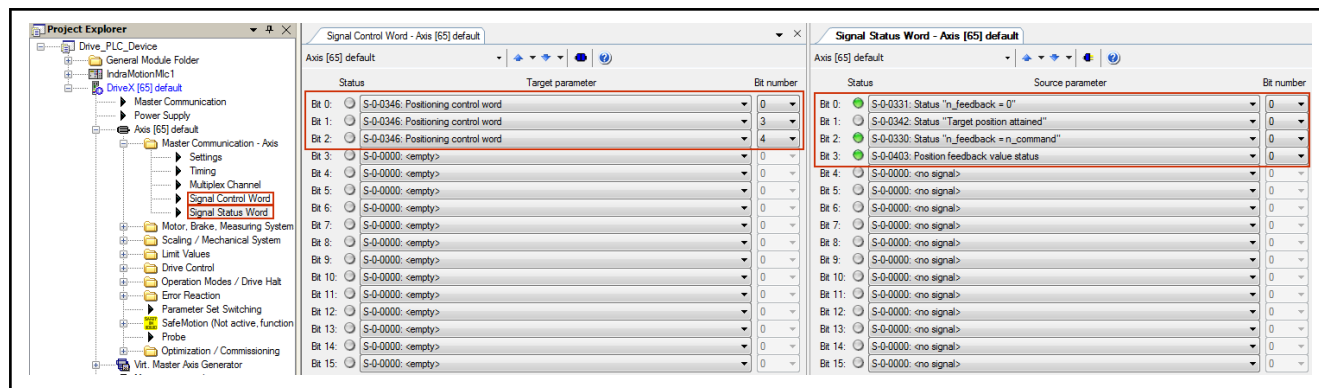

Fig. 6-89: Parameterizing signal control and signal status words using IndraWorks
4. Parameterizing signal control word and signal status word in IndraWorks Ds as described in fig. 6-89 "Parameterizing signal control and signal status words using IndraWorks" on page 311.